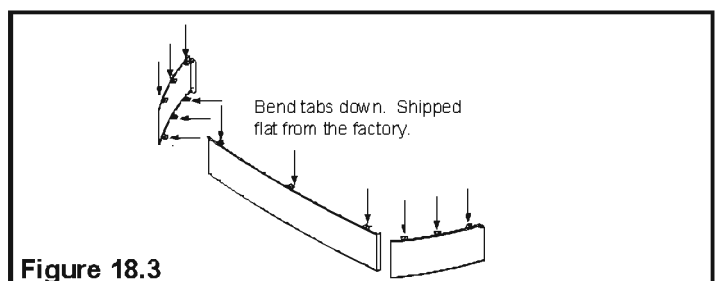

Figure 18.3
**Included in Kit:** (1) bottom, (1) trim front, (2) trim sides, (2) trim extensions
2. Lay front and sides face down. Bend the tabs down toward the inside. **Figure 18.3**